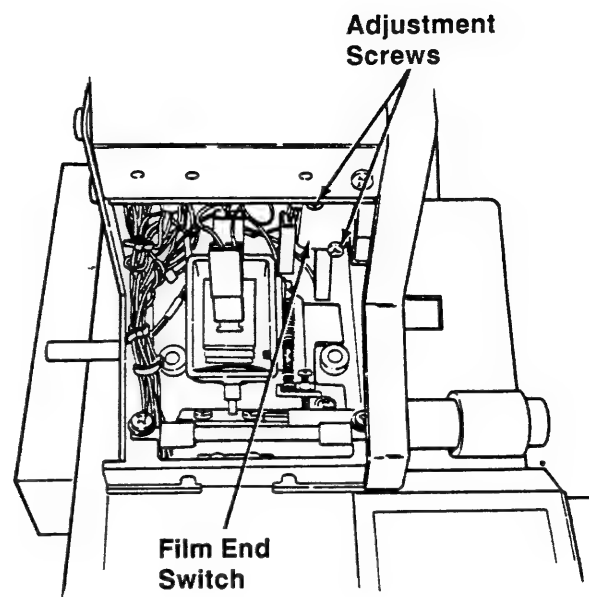

Figure 3-8A
5. Loosen the mounting screws securing the Film End Switch (Figure 3-8A).